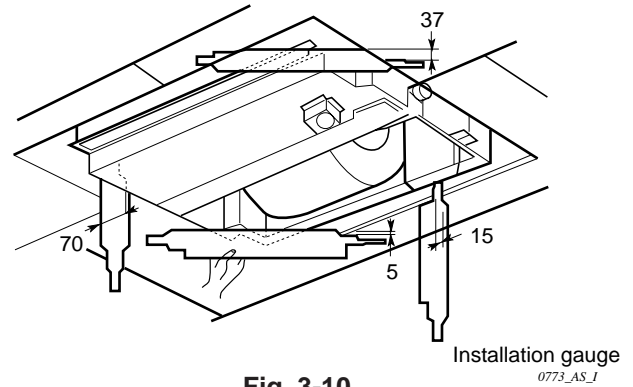

Fig. 3-10
- (4) Adjust the distance between the unit and the opening in the ceiling to give clearances of 15 mm in the front and back directions and 70 mm in the right and left directions so that the height between the bottom surface of the flange of the unit and the bottom surface of the ceiling is 37 mm, and the air-intake side is 5 mm. To check these dimensions for positioning the unit, use the installation gauge which is taped on the unit. (Fig. 3-10)
- (5) Confirm all clearances with the installation gauge, as follows:
Improper clearance can lead to poor mounting of the ceiling panel, causing condensation and dripping. (Fig. 3-10)